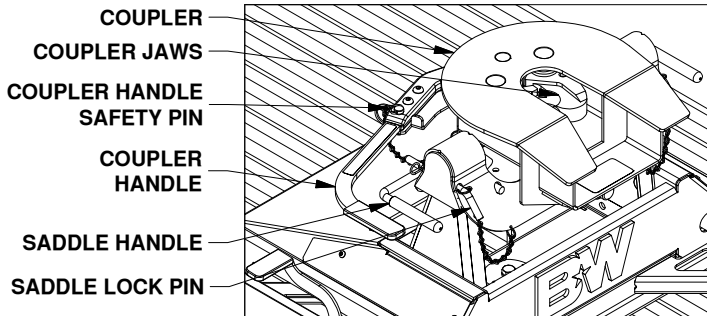

Figure F1: View of slider base and coupler assembled.
1. **Place coupler.** Lubricate the polyurethane bushings on top of pivot arms with high grade lithium grease (available at your local hardware/automotive store). Place the coupler over the pivot arms. (The saddle handles should be parallel with the slider base in the latched position.) Place the saddle lock pins through the saddle, then insert the hairpins through the holes in the end of the saddle lock pins to secure the coupler to the pivot arms, see Figure F1.